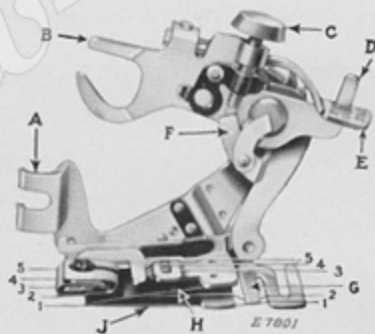
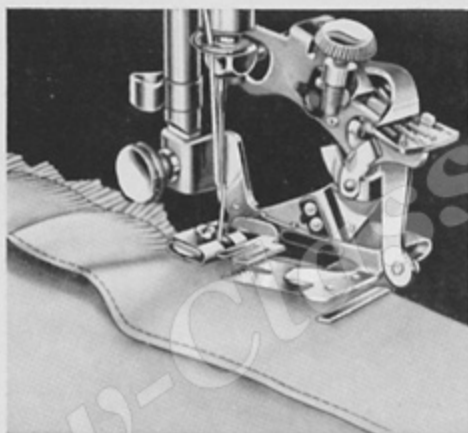

FIG. 58. THE RUFFLER AND ITS PARTS
FIG. 61. MAKING A RUFFLE AND SEWING IT TO THE GARMENT
It is necessary to become familiar with the Ruffler before it can be used successfully. Select the Ruffler from the set of attachments and compare it with Fig. 58. Note the names and uses of the principal parts, as follows:
NOTE: If the Ruffler with your machine is not exactly like Fig. 58, you will find the working parts quite similar. Any difference in the adjustments will be found explained in the instruction book. The 66-1 Singer machine has an entirely different type of foot from other Singer models and it is well to compare
Lines 1, 2, 3, 4 and 5 (Fig. 58) indicate where the material is to be placed for various operations, as follows:
Raise the adjusting lever (E, Fig. 60) and move it to the left so that the projection (D, Fig. 60) will enter the slot marked "1" in the adjusting lever (E) when the lever is released. The Ruffling Blade will then move forward and back once at every stitch. Insert the material to be ruffled between the two blue blades, following the line 2 in Fig. 58. Draw the material slightly back of the needle, lower the presser bar and commence to sew.
Insert the material in the Ruffler between the two blue blades following line 2, Fig. 58. Pull the edge of the material to be gathered forward until it is slightly past the needle, lower the presser bar and sew. See Fig. 60. The fullness of the ruffle is determined by the position of the adjusting screw.
After having tested and adjusted the Ruffler for fullness, place the material for the ruffle in the Ruffler between the two blue blades and insert the garment to which it is to be attached under the separator blade following line 1, Fig. 58. Proceed as for plain gathering, guiding the material lightly so that it will not feed away from the heading guide. See Fig. 61.
First insert the material for the ruffle in the Ruffler between the two blades and the garment under the separator blade, as directed for sewing the ruffle to the garment in one operation. Place the material for the facing in the Ruffler, following line 3, Fig. 58. The facing may be straight or bias material. If the facing is to be on the right side of the garment, place the garment and the ruffle so that the wrong sides are together. If the facing is to be on the wrong side, place the right sides of the garment and the ruffle together. See Fig. 62.
If the heading on the ruffle is to be more than one-quarter of an inch wide, do not place the material in the guide when following line 2 (Fig. 58) but place the edge of the ruffle between the blades and to the right of the needle the desired amount, up to one inch, and guide it as the machine sews.